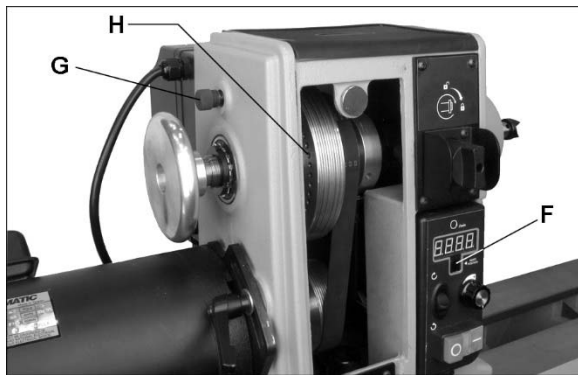

Figure 8-4
2. Push index position button (F, Figure 8-4). Digital readout will change from RPM setting to index setting.
3. Rotate workpiece by hand to desired position, then push in index pin (G, Figure 8-4) and turn workpiece slightly until pin engages hole.
- Screw index pin (G) into headstock to lock spindle.
- Push index position button (F) to set engaged index position at zero.
- Unscrew index pin (G) to release spindle, then rotate workpiece until next desired hole shows on readout.